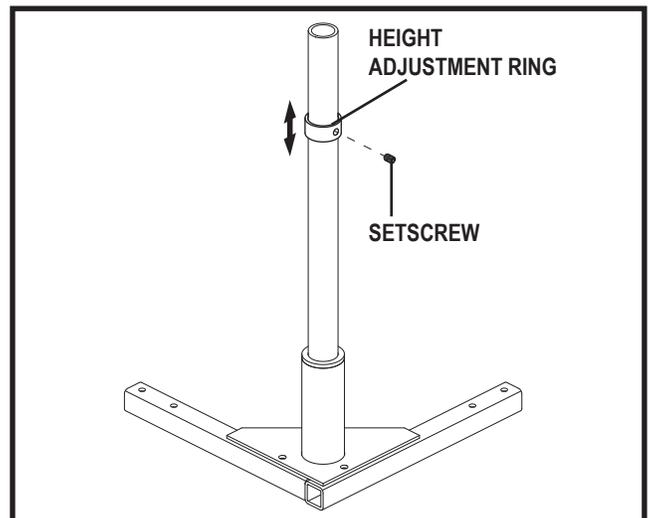
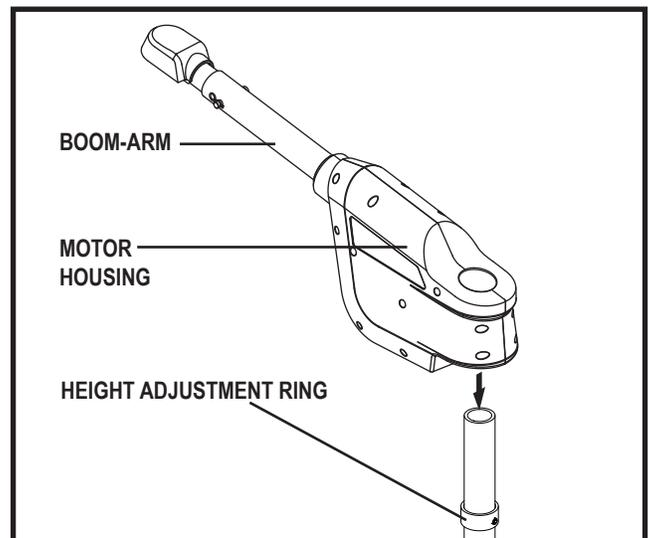
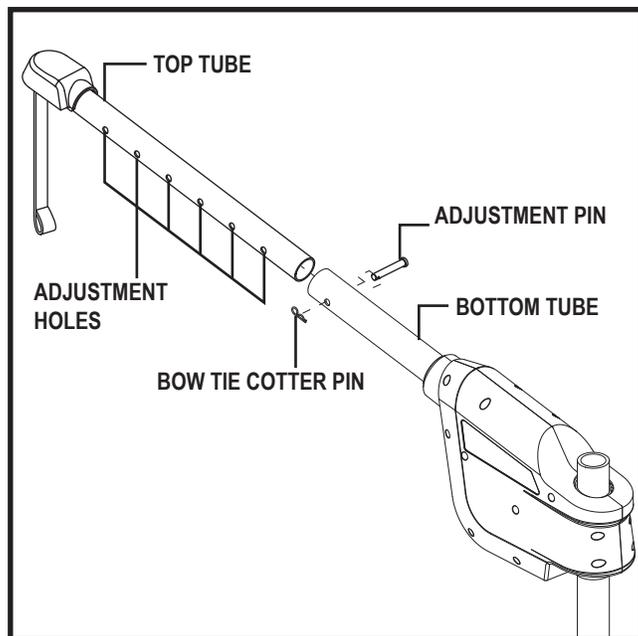

Figure 5. Height Adjustment Ring Assembly
Figure 6. Motor Housing Assembly
Figure 7. Boom Arm Adjustment
2. Slide the height adjustment ring (see figure 5) over the upper post and tighten the setscrew (a good starting point is approximately 12 in [30.5 cm] down from the top of the upper post). To ensure safe operation, the height adjustment ring must be secured no closer than 6 in (15 cm) from the top of the upper post.
3. Lower the motor housing over the upper post until it rests on the height adjustment ring. See figure 6.
You may need to adjust the height of the motor housing (see figure 6) or the length of the boom-arm (see figure 7) so the boom-arm can swing freely without hitting at any point inside the vehicle.
- The placement of the height adjustment ring determines the height of the motor housing. **See figure 5.**
1. Loosen the setscrew on the ring. **See figure 5.**
Before adjusting the boom-arm, lower the strap about 12 in (30.5 cm). This will provide enough slack in the strap to enable the adjustable portion of the boom-arm (top tube) to be pulled out of the bottom tube to its farthest adjustment hole. **See figure 7.**
6. Insert the upper post into the support arm, and install the motor housing assembly onto the upper post. **See figures 6 and 13.**
You may need to adjust the height of the motor housing (see figure 5) or the length of the boom-arm (see figure 7) so the boom-arm can swing freely without hitting at any point inside the vehicle. See "Motor Housing Height Adjustment" and "Boom-Arm Adjustment."